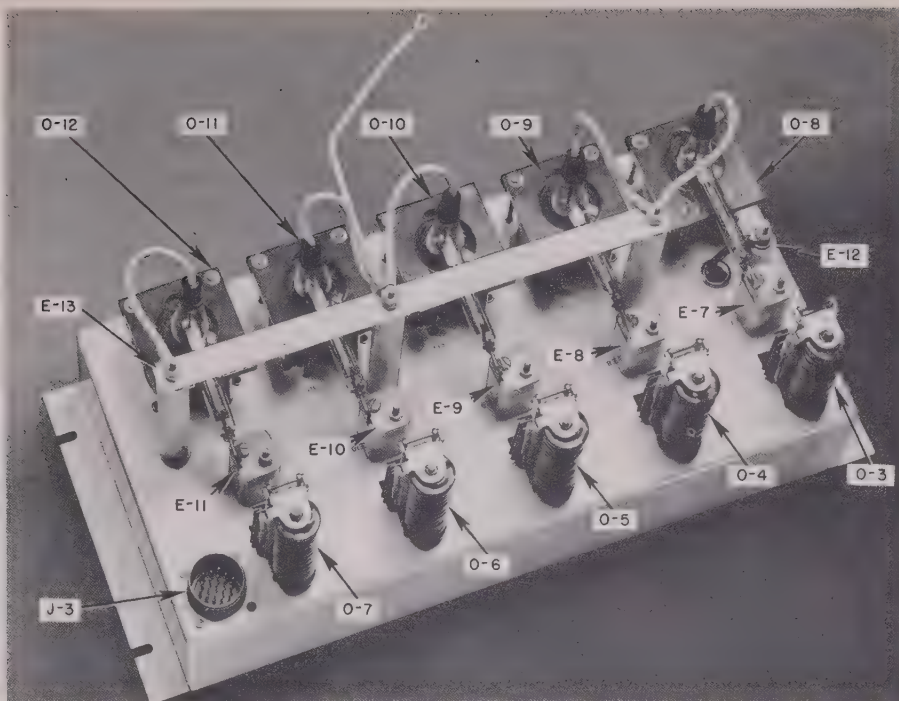

Figure 65. Rectifier Power Unit Model 36D, top view
f. Localizing Trouble In H-V Switching Unit (figs. 65 and 66).